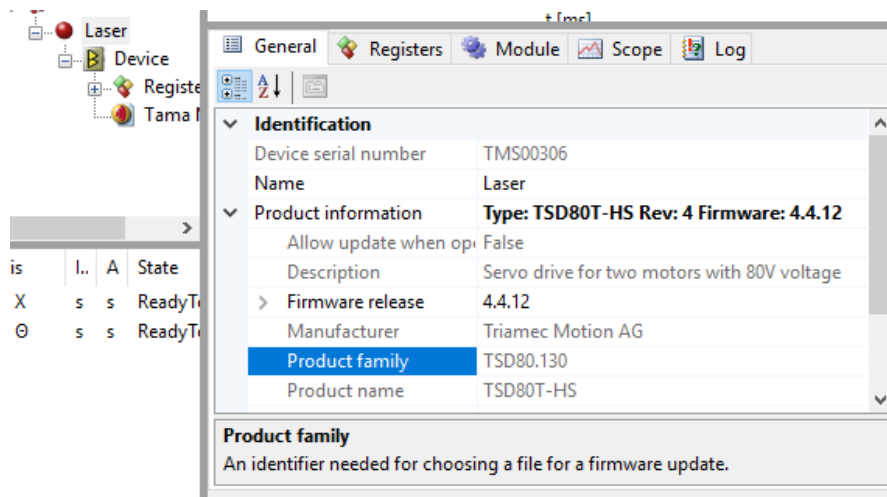

Figure 24: Station Properties.
2. Open the web-page matching the product type of your device (e.g. > **TSD Series**). If the product type of your device is not known, you can identify it by clicking the station of the device in the *Topology Tree*. This opens the property page in the **General** tab as shown in Figure 24. You will find the type of the device under **Product Information**. The property page also shows the currently installed firmware version and the product revision which could also be relevant for the selection of the firmware.